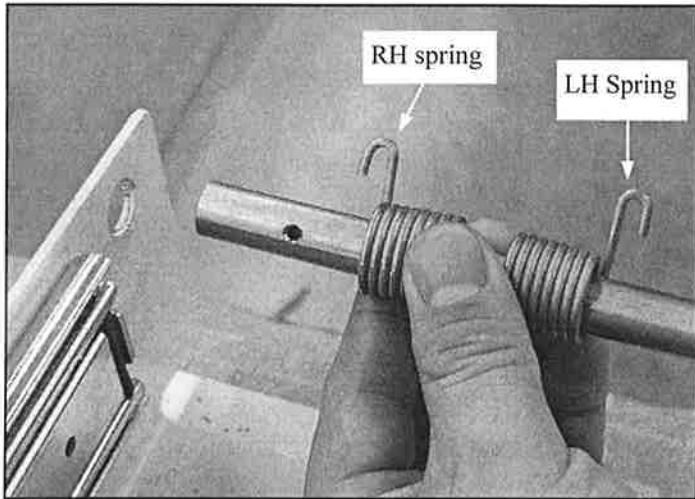

Figure 4
- 5) Slide the original lock rod out from either side of the foot section frame and replace it with the new lock rod supplied, positioning the new rod about 2" from the hole in the foot section frame on the opposite side, (Figure 4).
- 6) Place the new right and left hand springs in the proper orientation on the lock rod between the end of the rod and the inside of the foot section frame, and then slide the rod back through the hole in the foot section frame, (Figure 4).